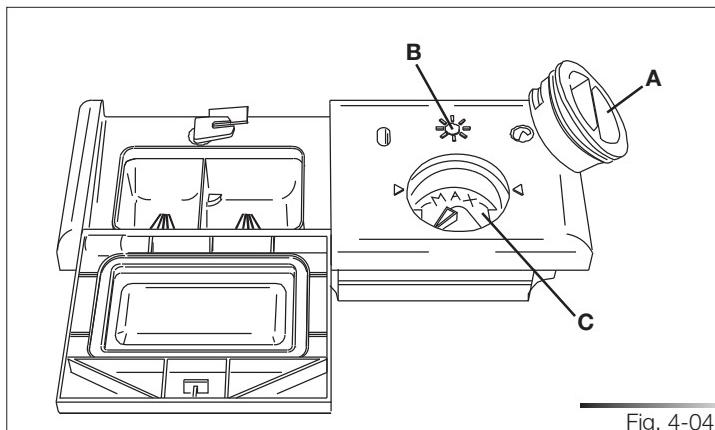

Fig. 4-04
- Rotate the container cover (ref. A fig. 4-04) anticlockwise by $\frac{1}{4}$ of a turn and remove it.
- Add the rinse aid until the container is full (approximately 140 ml). The optical level indicator (ref. B fig. 4-04), on the side of the cap should be completely obscured. Refill the rinse aid when the optical level indicator becomes clear again, or when the rinse aid warning light illuminates (see "Description of controls" manual).
- Replace the cover (ref. A fig. 4-04) by turning it in a clockwise direction until it is fully closed.
The rinse-aid dispenser can be set to one of 6 different levels. The dishwasher is factory set for medium water hardness (selector set to "3"). To change the setting, turn the dispenser selector (ref. c fig. 4-04) to the desired position: the amount of rinse-aid dispensed is proportional to the position of this selector. Make sure that the minimum amount of rinse-aid (selector turned to "1") is approximately 1 ml and the maximum amount (selector turned to "6") is approximately 6 ml.
- To adjust the rinse aid setting, rotate the dispenser cover (ref. A fig. 4-04) through a quarter turn in an anticlockwise direction and remove it.